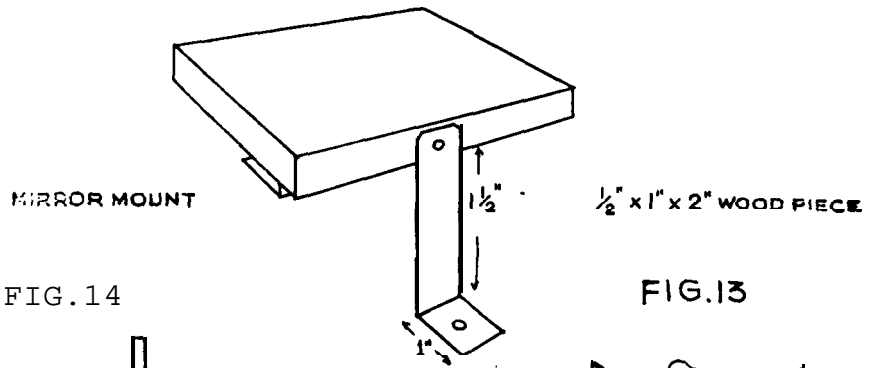

FIG. 14
34. Roll another cylinder which will fit snugly over the bamboo tube and the first cylinder. This cylinder will hold the smaller cylinder in place and also hold the lens on top of the small cylinder (see Figure 14).